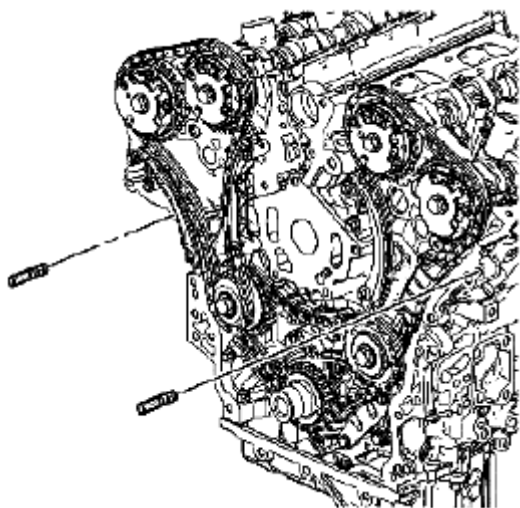

Fig. 939: Identifying Special Tool (EN 46109)
1. Install the 8 mm (0.315 in) guide from the EN 46109 into the cylinder block positions as shown in **Fig. 939**.